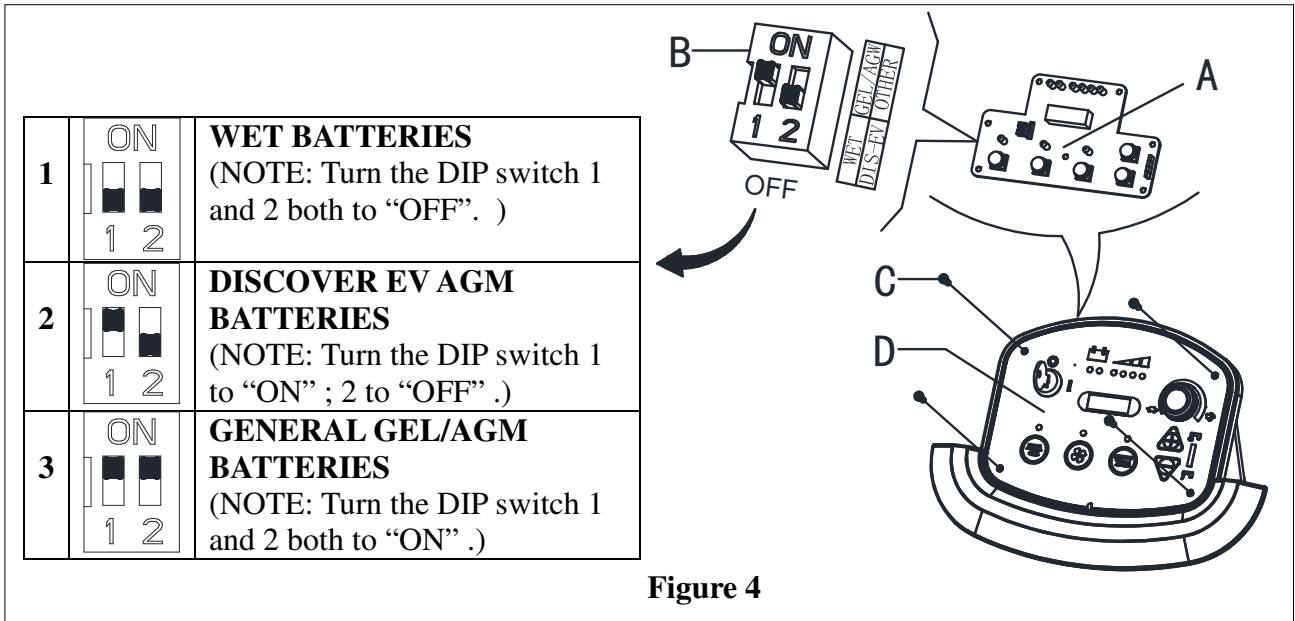

Figure 4
When install new batteries please refer to figure 4 to adjust the DIP switches. Otherwise the batteries may be damaged.
1. Turn the ignition key (35) to “I” and in the very first seconds of machine operation pay attention to the following:
- If the first green warning light (38) is flashing, the machine is set to GEL/AGM.
- If the yellow warning light (37) is flashing, the machine is set to Discover EV AGM.
- If the red warning light (36) is flashing, the machine is set to WET.
4. Remove the screws on control panel (C, Figure 4), then turn over the PCB (A Figure 4)to find the DIP switch
(B,Figure4) for setting battery type(WET or Discover EV AGM or GEL/AGM), (Refer to 1 or 2 or 3).